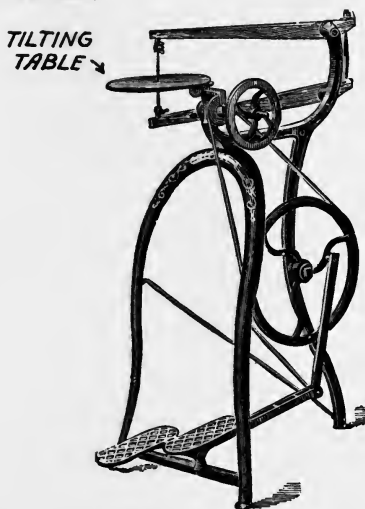

FIG. 13. THE CHEAPEST FOOT-POWER SCROLL SAW MADE
This little machine weighs 17 pounds and is 33 inches high; it is made of lighter castings than the machines which follow but it will do just about as good work as the higher priced ones. Fig. 13 shows what it looks like.
**How a Foot-Power Scroll Saw Works.**—If you will look again at Figs. 13 and 14 you will see that the scroll saws shown have saw frames very like a hand saw frame. The lower part of the frame is connected with a crank on the end of a spindle, which has a small grooved wheel fixed to it, by a pitman or rod